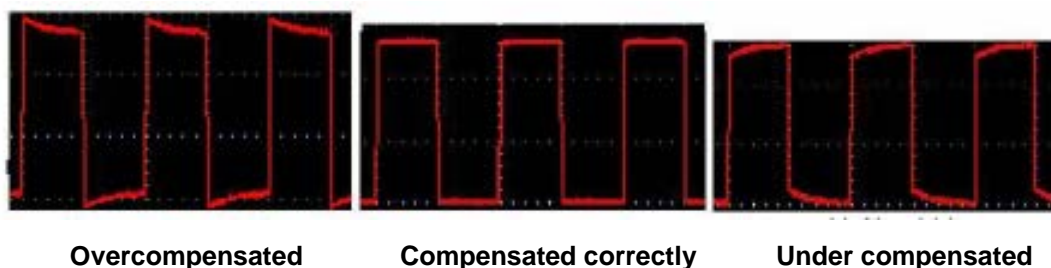
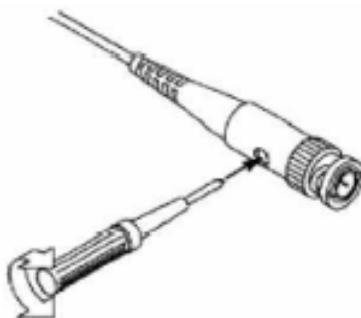

Fig. 8 Displayed Waveforms of the Probe Compensation
Fig. 9 Adjust Probe
2. Check the displayed waveforms and regulate the probe till a correct compensation is achieved (see **Fig. 8** and **Fig. 9**).